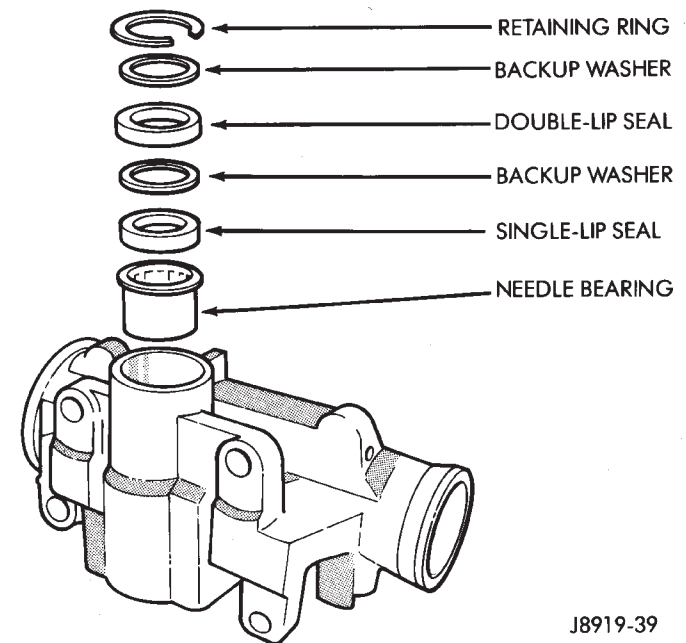

Fig. 35 Pitman Shaft Seals
(1) Remove pitman arm from gear. Refer to Pitman Arm Removal in Steering Linkage.
(2) Clean exposed end of pitman shaft and housing. Use a wire brush to clean the shaft splines.
(3) Remove retaining ring with snap ring pliers (Fig. 35).